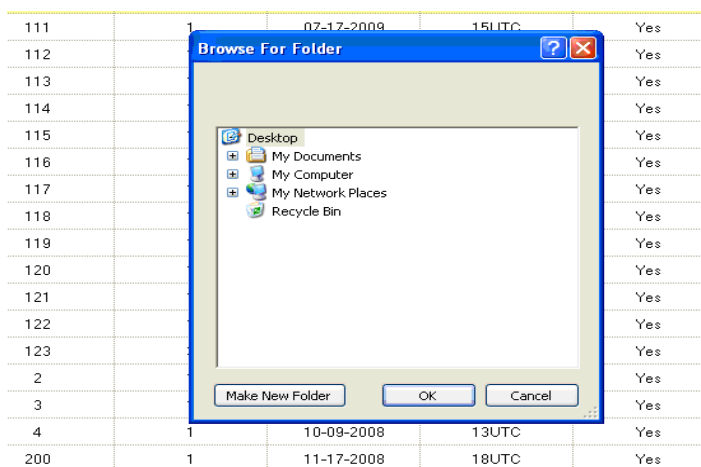

Figure B-6: Browse to the Location for Export
7. Click **Export** to display the *Browse for Folder* window (Figure B-6).